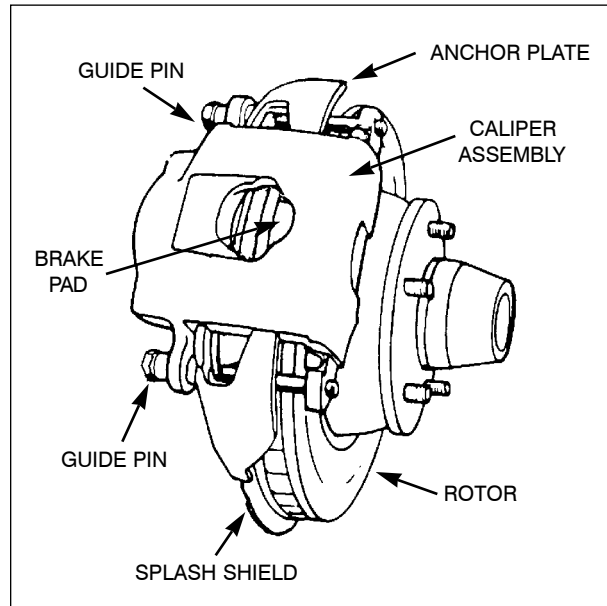
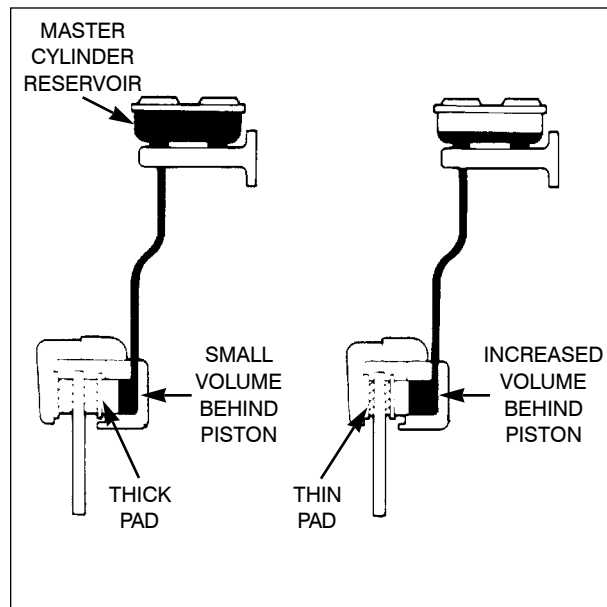

Fig. 1
Fig. 2 - worn pads cause lower reservoir level.
3. The caliper is bolted to the spindle, on some models (see Fig. 1). Brake friction pads are so arranged that when hydraulic pressure is built up behind the pistons, the pads will be forced against the disc, providing braking effort (see Fig. 2).